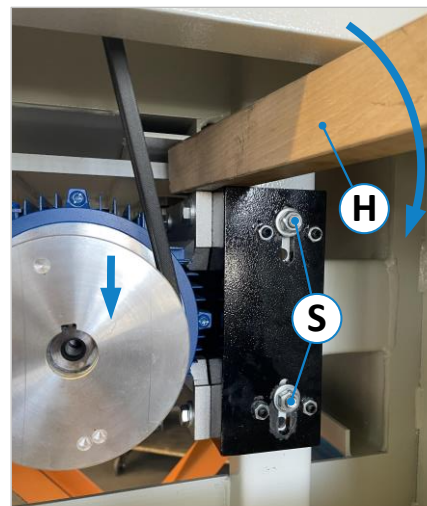

Figure 59: Tension the V-belt
- See ⇒ Figure 59: Loosen the two hexagon nuts (S) and push the motor downwards with a wooden lever (H). Then tighten the two nuts (S) again.